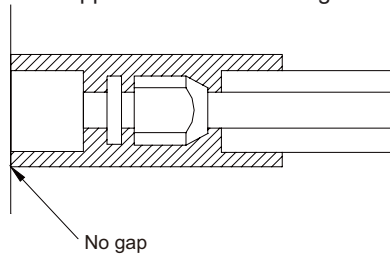

Fig.7
2) The joints of the indoor unit should be wrapped with the insulating material and no gap is allowed on the joint of the indoor unit, as shown in Fig.7.